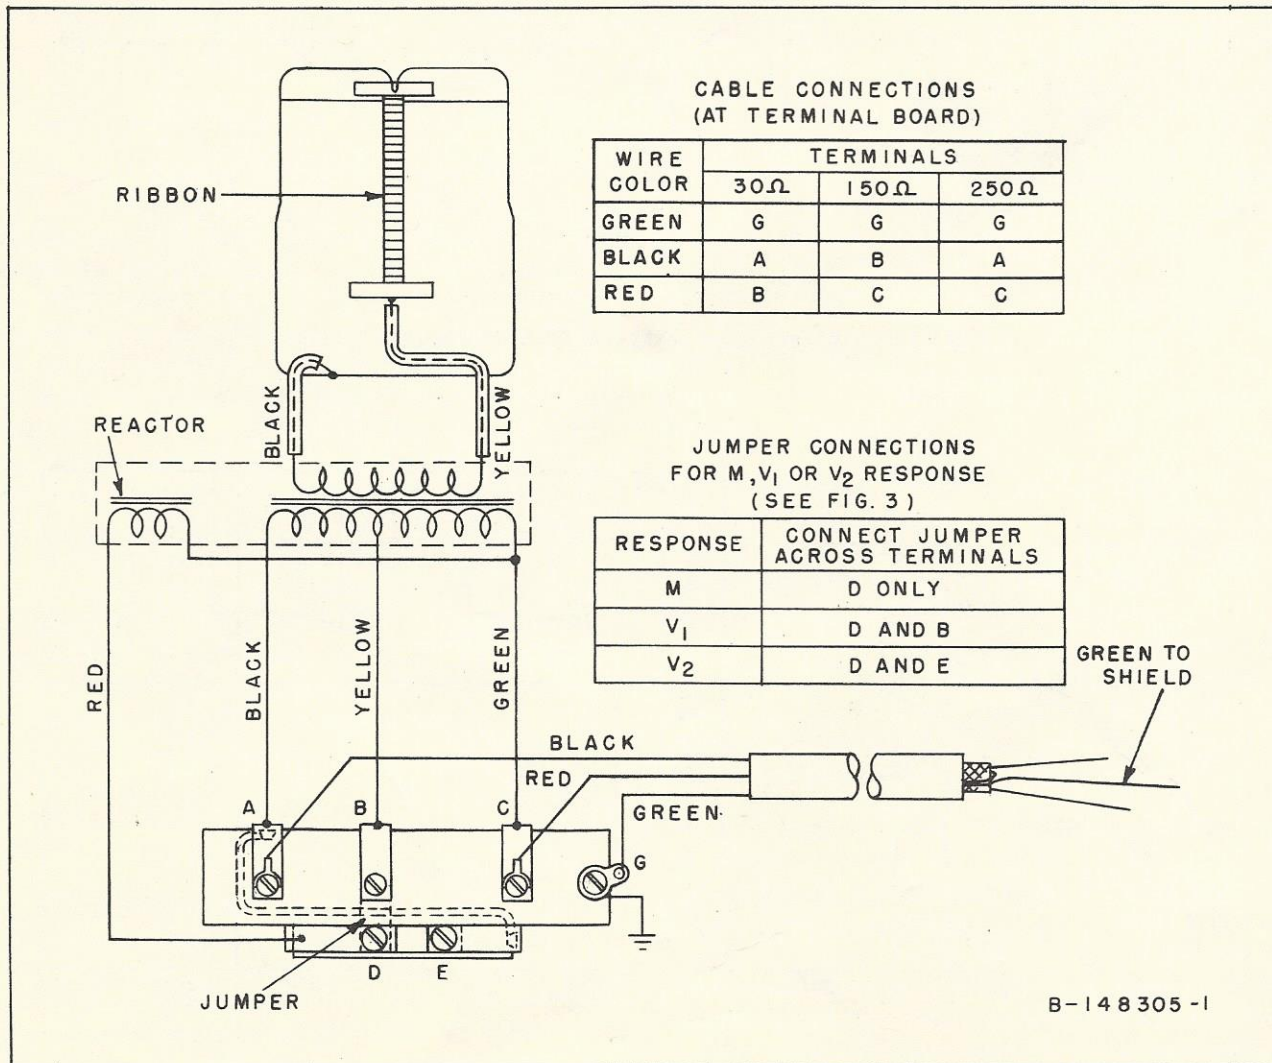

Figure 5 - Schematic Diagram for MI-4027-H Microphone
b. Connect the cable leads to the terminals for the desired impedance as shown in figures 5, 6 and 7, or the diagram attached to the cover of the transformer housing.
The position of the jumper for the M, V₁ or V₂ response can be observed through the hole in the bottom cover of the microphone. To change this connection, remove the bottom cover (as directed under *Impedance Changes*) and connect the jumper for the desired response as shown in figures 5, 6 and 7.